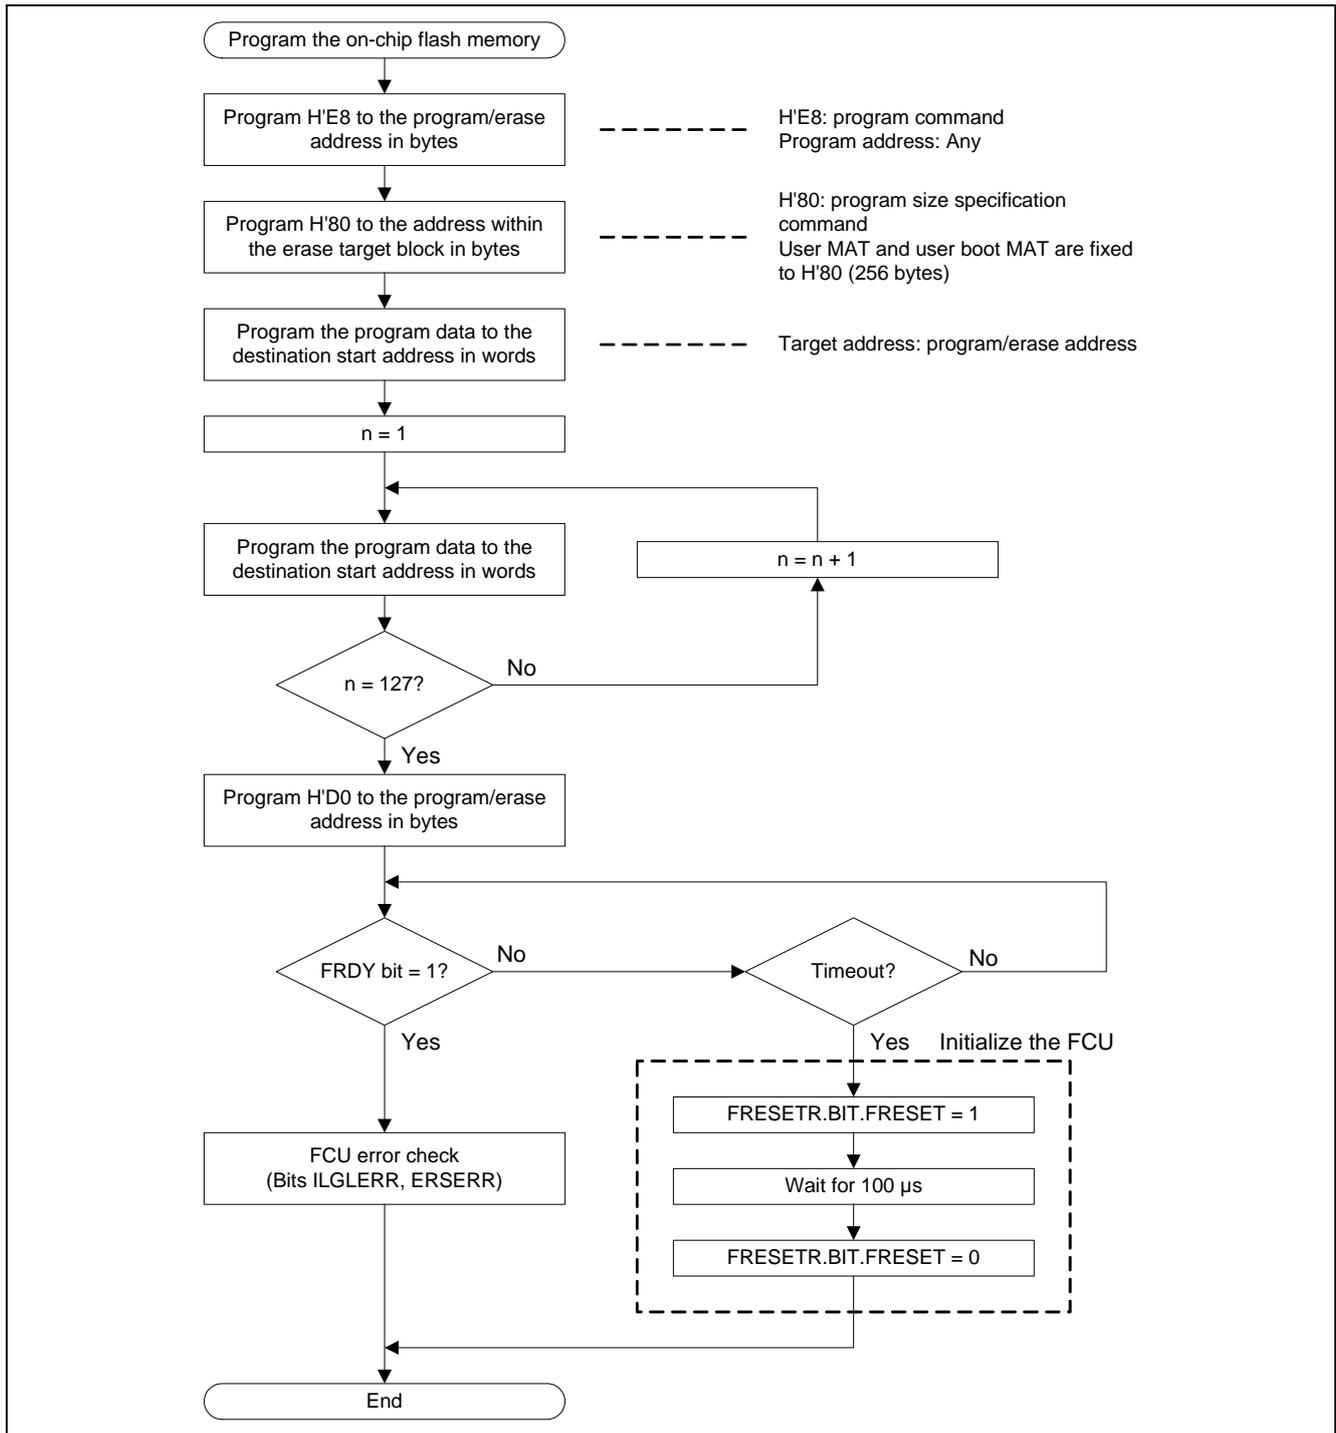

Figure 7 Programming the Flash Memory
Figure 7 shows the flow chart for programming the flash memory(4).
4. Flow chart in Figure 7 does not follow the standard API.